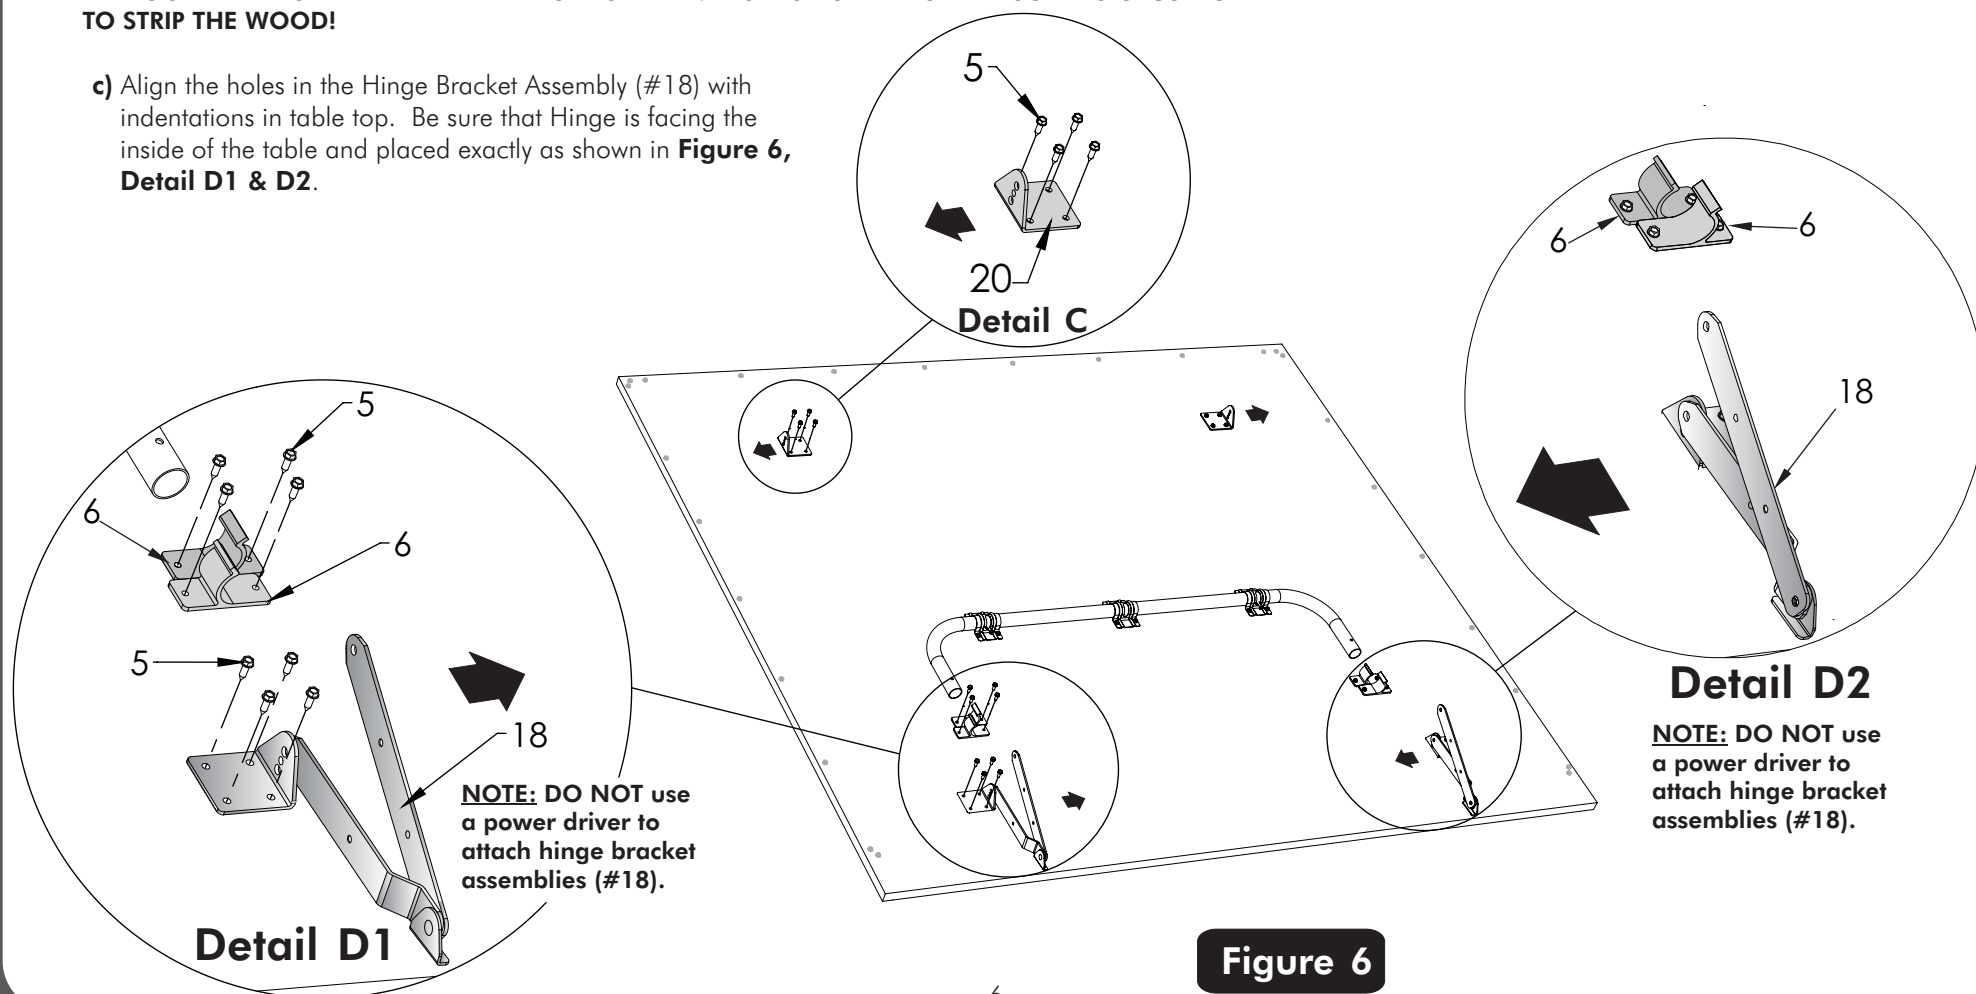

Figure 6
10. Assemble parts to the bottom of the table top with Screws (#5) as shown in **Figure 6, Detail C, Detail D1 & D2.**
- Align the holes in the two U-Support Clips (#6) with indentations in table top. Be sure that the two U-Support Clips (#6) are positioned exactly as shown in **Figure 6, Detail D1 & D2.**
- Align the holes in the Hinge Bracket Assembly (#18) with indentations in table top. Be sure that Hinge is facing the inside of the table and placed exactly as shown in **Figure 6, Detail D1 & D2.**